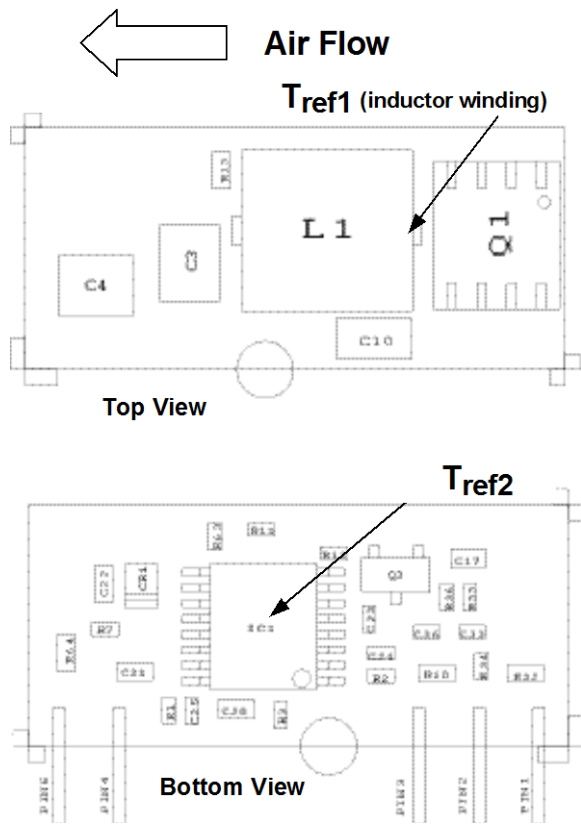
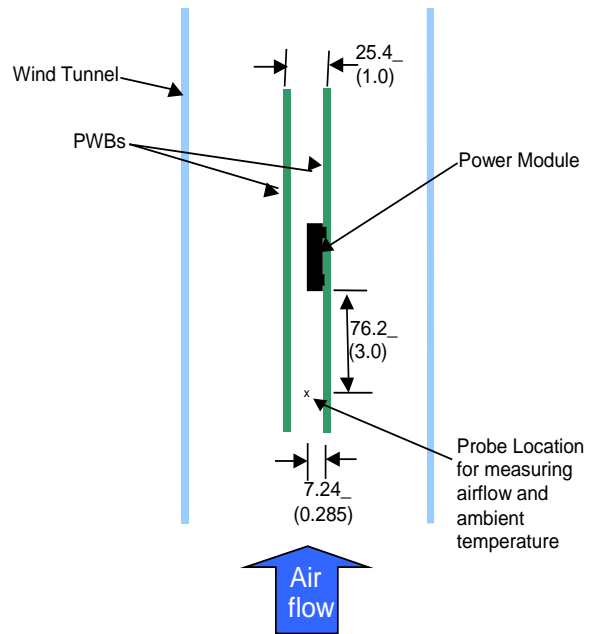

Figure 32. T_{ref} Temperature measurement location.
Figure 33. Thermal Test Set-up.
Considerations include ambient temperature, airflow, module power dissipation, and the need for increased reliability. A reduction in the operating temperature of the module will result in an increase in reliability. The thermal data presented here is based on physical measurements taken in a wind tunnel. The test set-up is shown in Figure 33. Note that the airflow is parallel to the long axis of the module as shown in figure 32. The derating data applies to airflow in either direction of the module’s long axis.
The thermal reference point, T_{ref 1} used in the specifications of thermal derating curves is shown in Figure 32. For reliable operation this temperature should not exceed 125°C. The output power of the module should not exceed the rated power of the module (V_{o,set} x I_{o,max}).